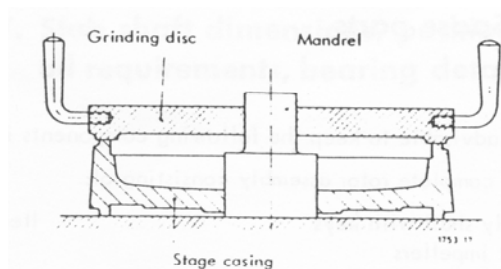
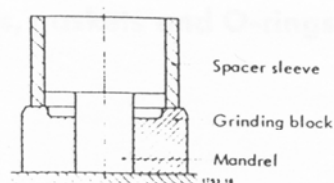

Fig. 22
Fig. 23
2. Gasket or metal-to-metal sealing faces damaged.	If the leakage cannot be cured by tightening the tiebolts, new gaskets should be inserted or the metal mating faces should be touched up (fig.22).
Proceed as described in section 5.2.1. with the necessary modifications. The highest degree of cleanliness should be observed during assembly of the mating parts. Before assembly is commenced, all the mating faces must be carefully examined. Should they not be perfectly smooth and true, they must be ground manually by means of special cast iron grinding blocks (Figs. 22 and 23).
Fig. 22 illustrates a grinding disc for stage casing, and fig. 23 the grinding tool used for regrounding the rotating parts; the latter is designed as a bushing (socket), since only thus can it be ensured that the ground surfaces are fully perpendicular to the axis of the shaft. The abrasive material (grinding paste) used must be of a high grade fine grained quality.